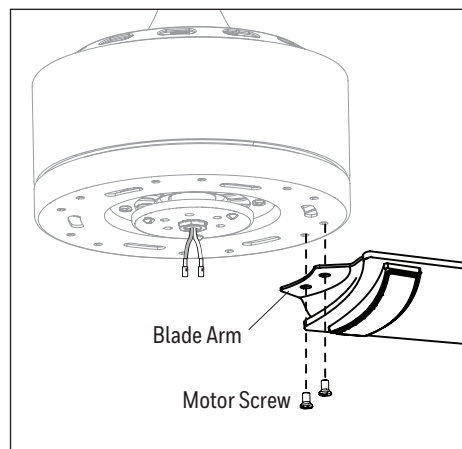

Figure 5.5
- Install the blade arm to the underside of the motor assembly with the motor screws. Tighten each blade arm completely before moving to the next (Figure 5.5).